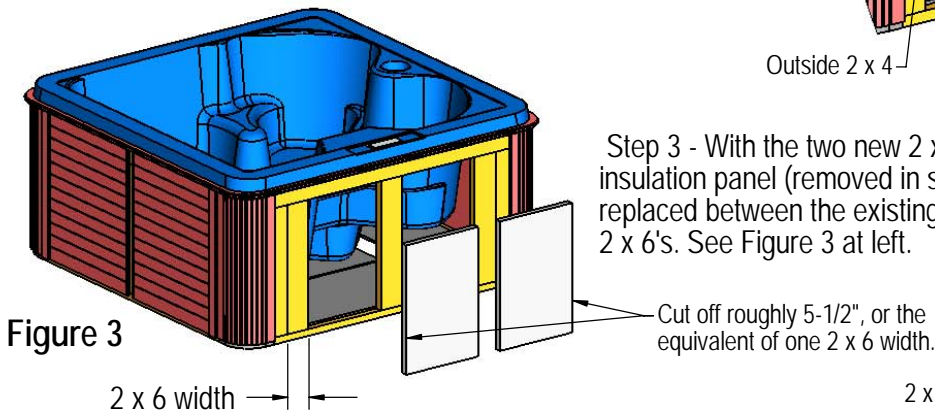

Figure 3
Step 3 - With the two new 2 x 6's installed, one vertical side of each insulation panel (removed in step 1) needs to be cut prior to being replaced between the existing center 2 x 6 and the two new outside 2 x 6's. See Figure 3 at left.